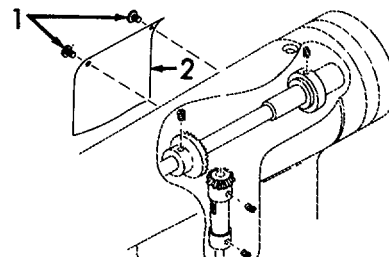

Figure 6-106. Side Cover, Installation.
- (5) Adjust vertical shaft collars (6 and 8) so that there is no up and down end play on either lower or upper vertical shaft gears (4 and 10), and that a good mesh is made.
- (6) Tighten two setscrews (5 and 7) when positioned properly.
- (7) Refer to Figure 6-106. Position side cover (1) into place.
- (8) Install two screws (2).